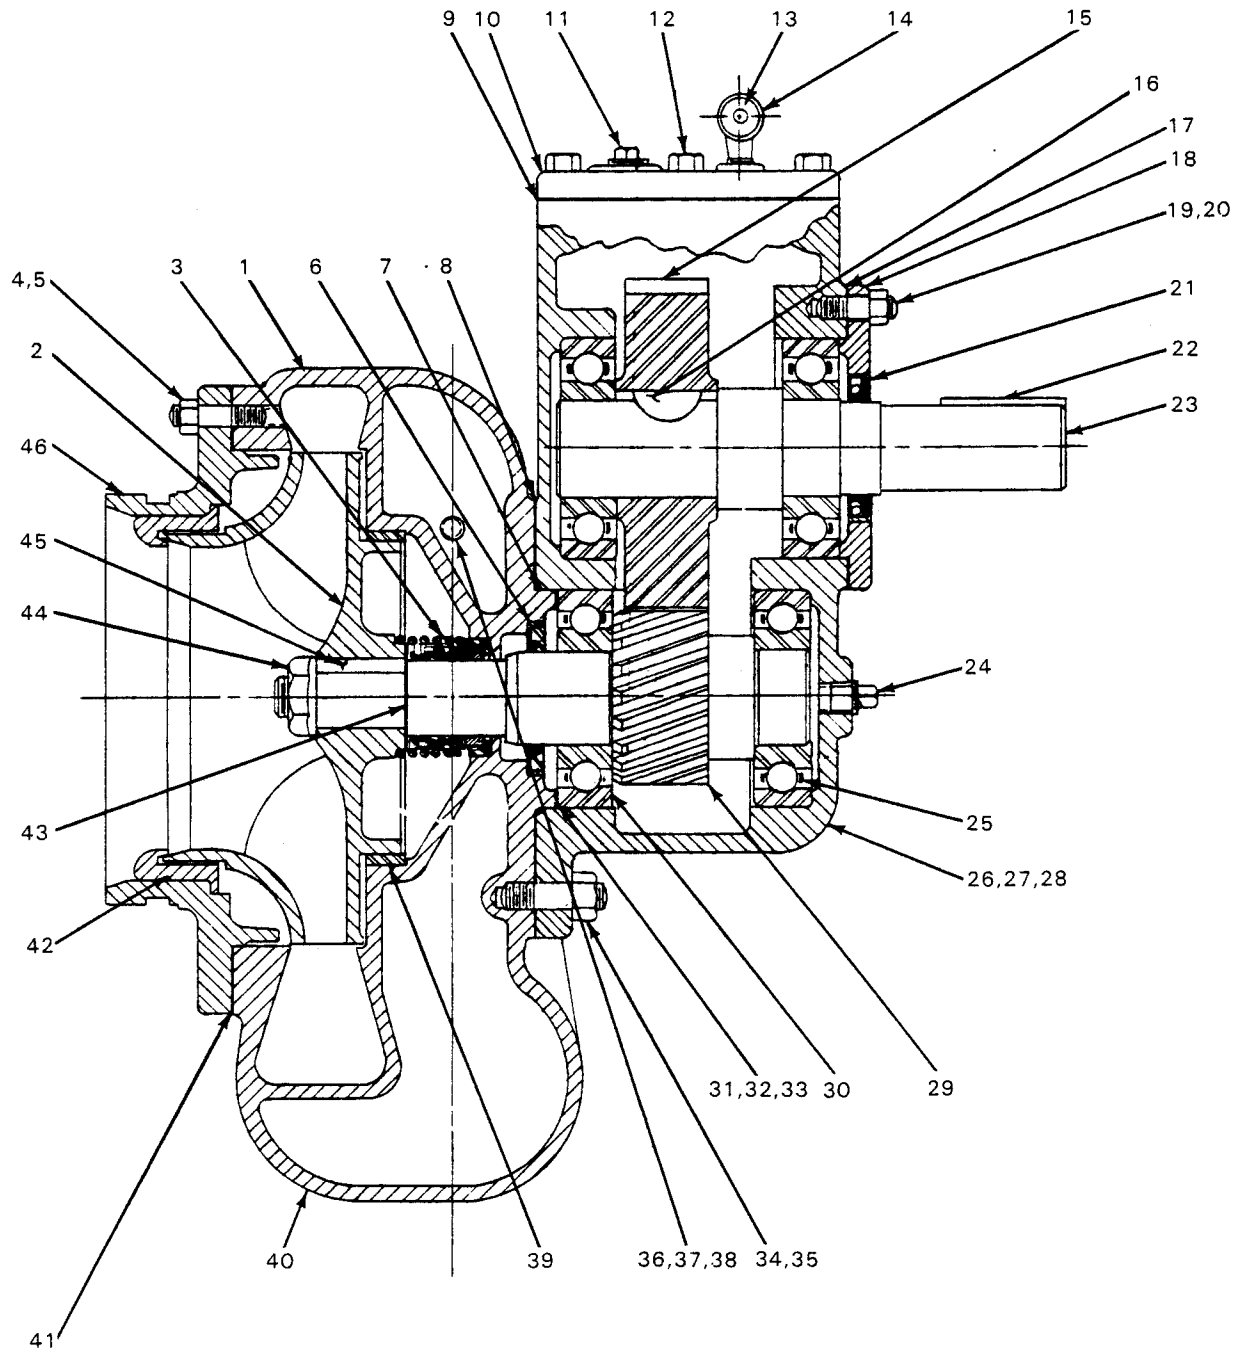

Figure 1. Pump Model 06D1-GA
This pump requires little service due to its rugged, minimum-maintenance design. If it becomes necessary to inspect or replace components, however, follow these instructions, which are keyed to the sectional view (see figure 1) and the accompanying parts list.
Reinstall the drive shaft bearing in the gearbox housing. Reinstall the drive gear key, and position the drive gear so that it engages the pinion shaft gear. Install the drive shaft and bearing. Inspect the oil seal (21) and replace as necessary. Reinstall the oil seal in the bearing cap, positioning the lip as shown in figure 1, replace the bearing cap gasket (17), and secure the bearing cap to the gearbox housing.
Replace the bearing shims. After final reassembly, shaft end play should fall between .005 and .012 inches; add or remove bearing shims to reach this recommended tolerance. Inspect the oil seal, and replace as necessary. Reinstall the oil seal in the volute housing, positioning the lip as shown in figure 1.